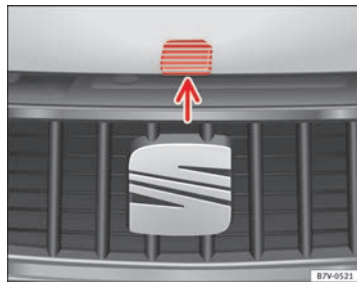

Fig. 169 Release lever to open the bonnet in the radiator grille.
- Lift the bonnet using the release lever ⇒ fig. 169 (arrow) and open the bonnet fully. The bonnet is held open thanks to the gas strut.